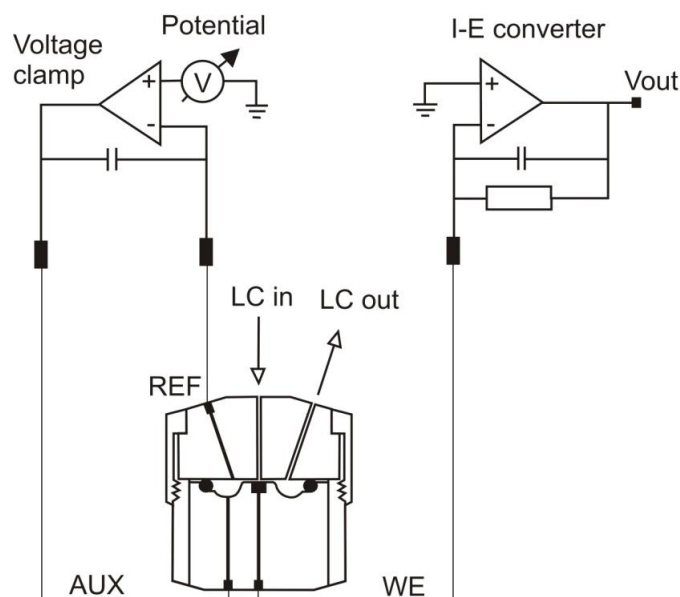

Fig. 2. Schematic representation of an electrochemical cell with a three-electrode configuration.
In the SenCell flow cell a three-electrode configuration is used (Fig. 2). The working potential is set between the working electrode (WE) and the auxiliary electrode (AUX). The AUX is kept at a precisely defined reference electrode (REF) potential by means of the so-called voltage clamp. This is an electronic feedback circuit that compensates for polarisation effects at the electrodes. At the WE, which is kept at virtual ground, the electrochemical reaction takes place, i.e. electrons are transferred at the WE. This results in an electrical current to the I/E converter, which is a special type of operational amplifier. The output voltage can be measured by an integrator or recorder.